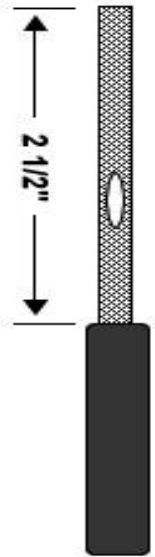

Figure 2
4. Prepare split lead on coax in accordance with Figure 2 and 3. RG-8U coax is recommended.